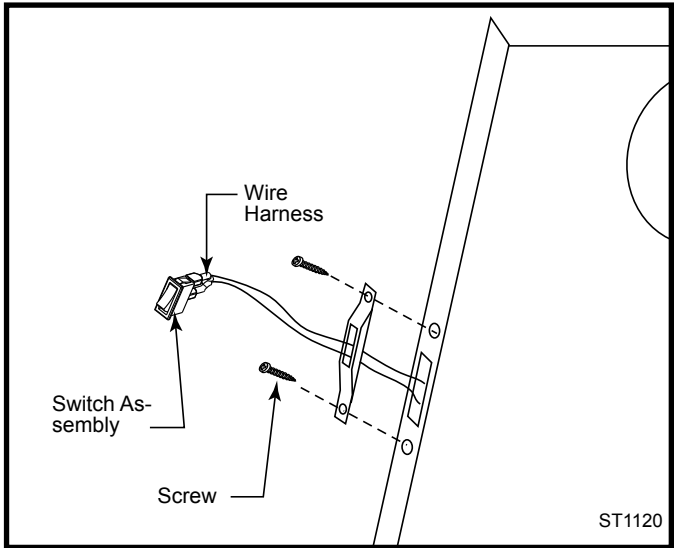

Fig. 55 Attach switch assembly to rear shroud.
1. Apply wiring harness to the ON/OFF switch terminals then insert into cut out on switch housing. The ON/OFF switch will 'snap' into the cutout. (Fig. 55)